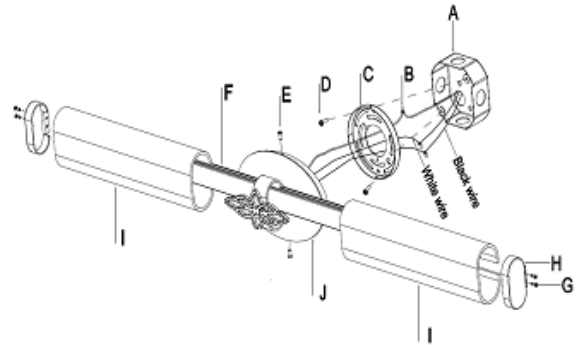

Fig.2
CONNECTING THE WIRES (FIG. 2)
3. At this point, connect the electrical wires as shown in Fig. 2, making sure that all wire connectors(B) are secured. If your outlet has a ground wire (green or bare copper), connect the fixture's ground wire to it. Otherwise, connect the fixture ground wire directly to the mounting plate (C) using the green screw provided. After wires are connected, tuck them carefully inside the junction box.
4. Align the fixture's back plate (J) over the mounting back plate (C) and secure with screws (E).